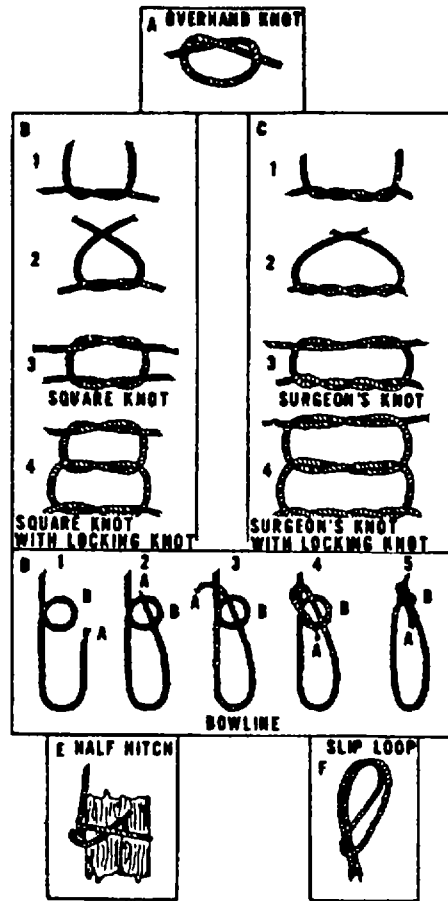

Figure 2-1. Knots Used In Survival Kit Maintenance
2.11.1 Making Knots. During the performance of the various maintenance functions on survival kits, the making of certain type knots is prescribed. Details for the forming of knots specified in this publication are shown in Figure 2-1.